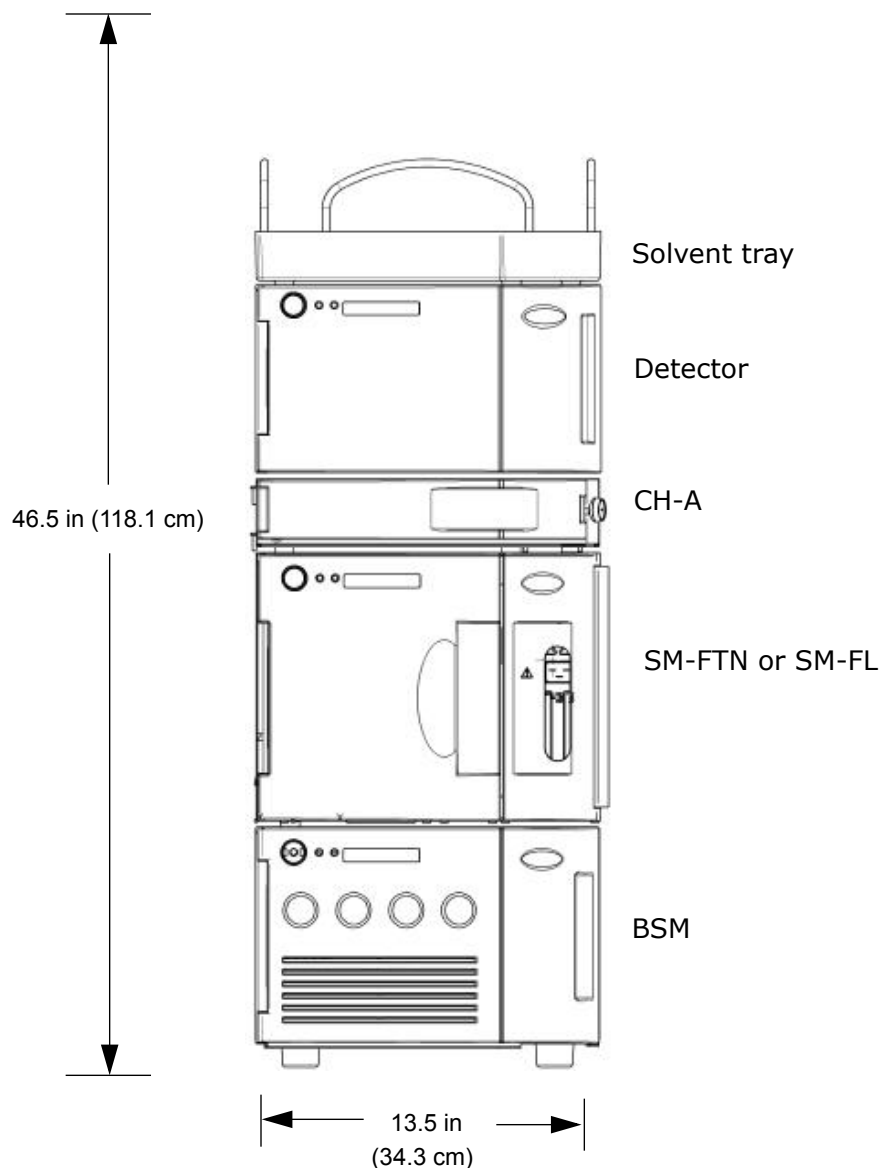

Figure 1 - ACQUITY I-Class System with Column Heater-A
Figure 1 consists of the following components in a stacked position:
**NOTE:** The vertical dimension in Figure 1 includes extra 10-inch (25.4-cm) clearance for solvent tray access; see Table 1 for depth requirements.